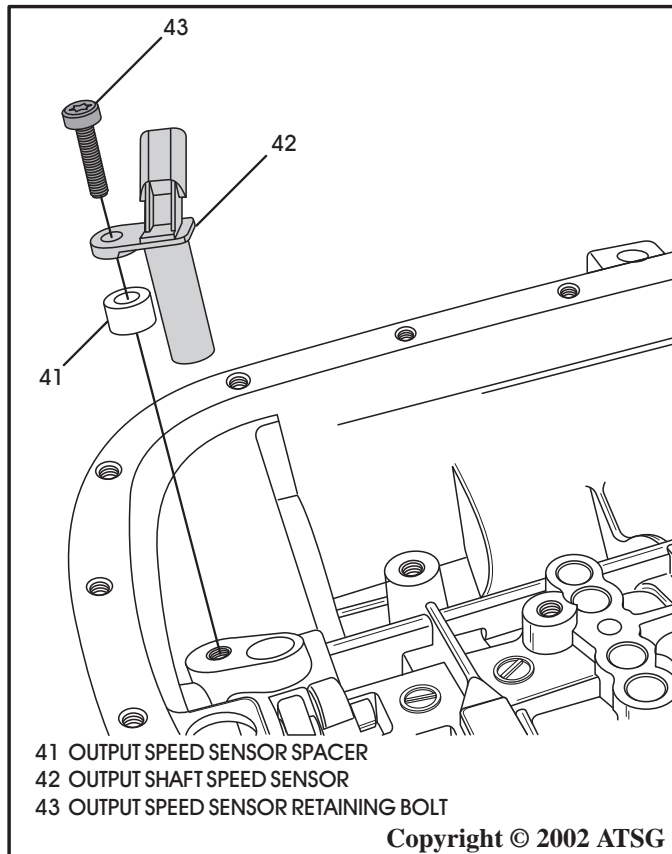

Figure 43
32. Remove output speed sensor retaining bolt, output speed sensor spacer and output speed sensor, as shown in Figure 43.